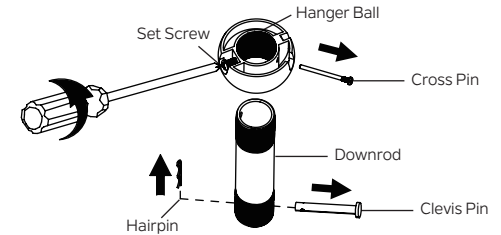

Fig. 6
**Step 2.** Remove the hairpin and clevis pin from the downrod assembly, retain for later use. Remove the hanger ball from the downrod assembly by loosening set screw, removing the cross pin, and sliding ball of the rod. (Fig. 6)